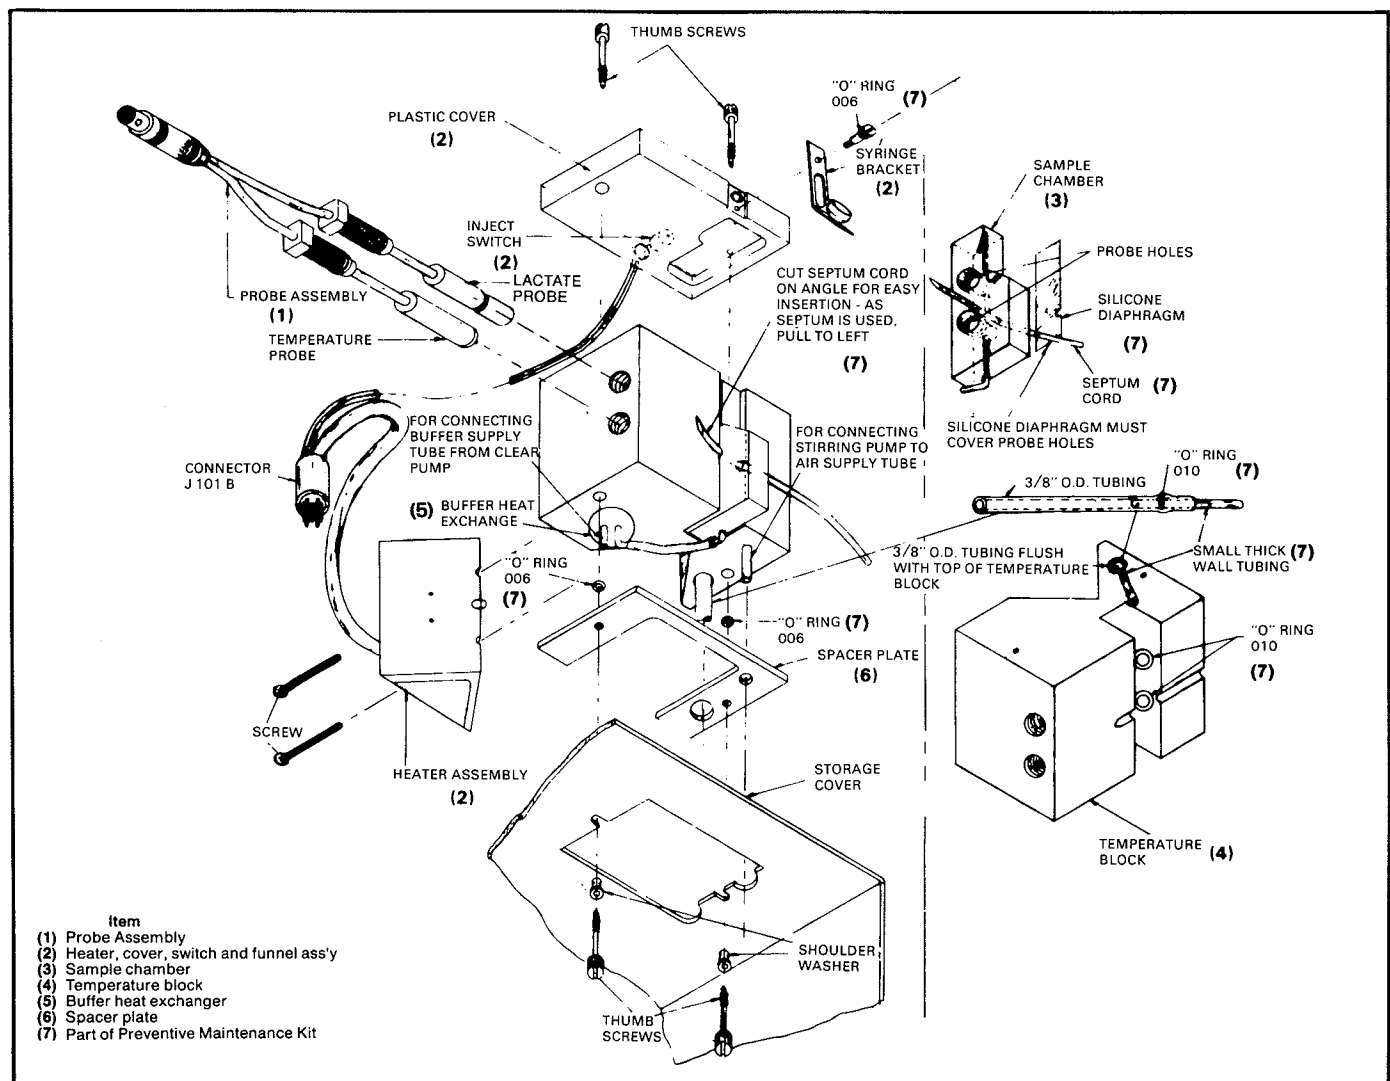

Figure 12. Exploded view of the temperature block.
5. Unplug the heater assembly/injection port switch connector. (See Figure 12.) Be sure no buffer solution spills into the receptacle.